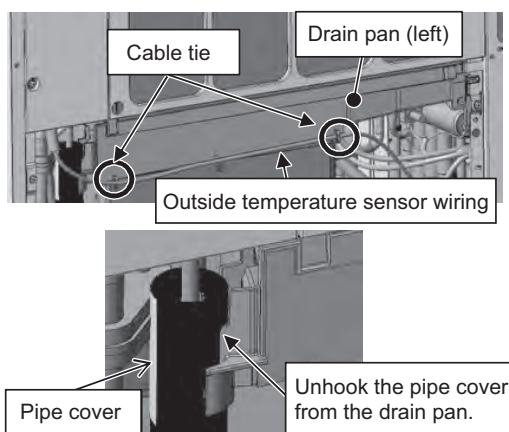

Figure 3
- (2) Remove the external temperature sensor wiring from the left drain pan by cutting the two cable ties. (See Figure 3.)
Be sure to remove the two rod holders holding the check joints to the drain pan. (See Figure 3.)
Cut the cable tie. Figure 3